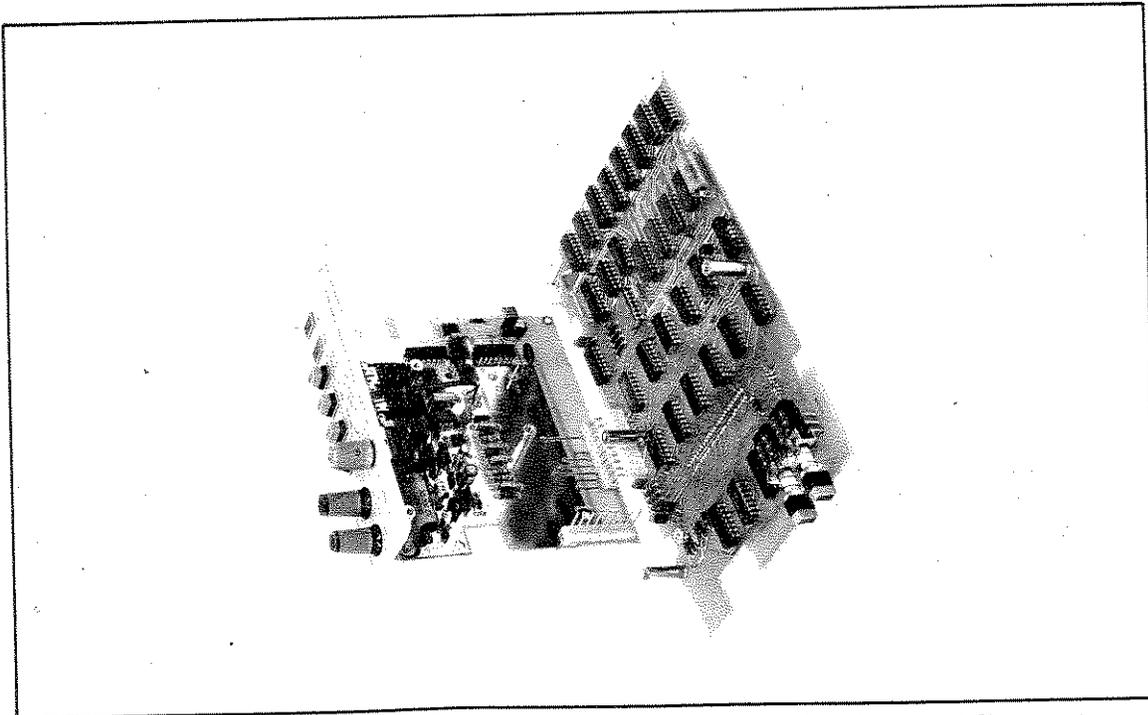

Figure 9G-5-1. Circuit-Board Interconnection for Troubleshooting and Adjustment
- e. Interconnect the circuit-board assemblies as illustrated in Figure 9G-5-1 and mate the two assemblies to a 5300 mainframe.